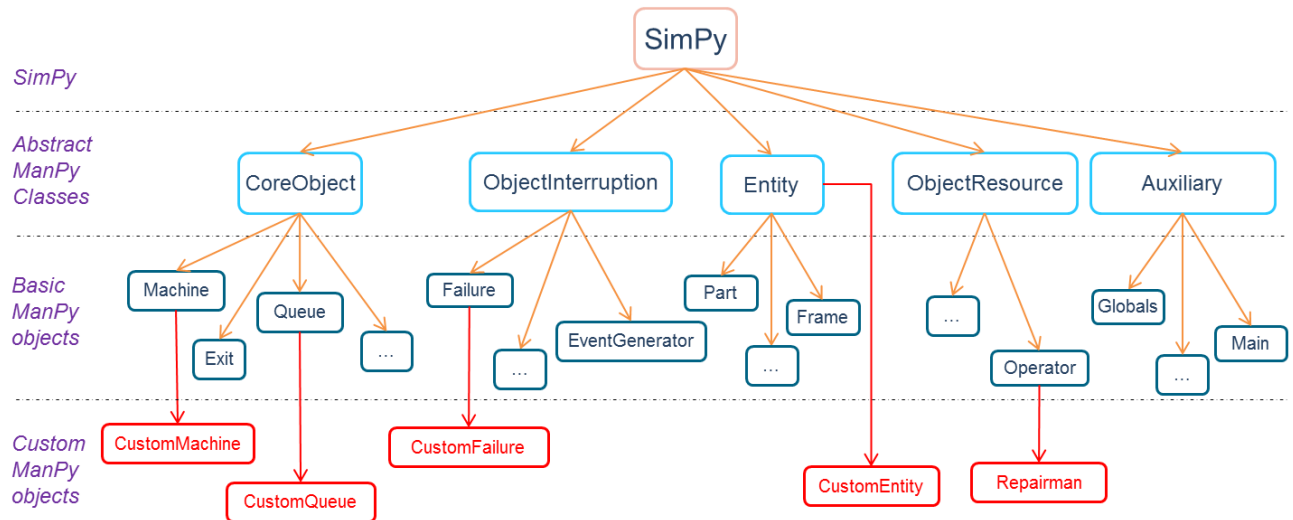

Figure 1: The ManPy class hierarchy.
ManPy objects are written exclusively in Python and they use methods of SimPy. Figure 1 shows the current state of the architecture.
In Figure 1 four different layers are depicted:
- **Auxiliary:** These are auxiliary classes that are needed for different simulation functionalities. Unlike the other categories described here, auxiliary classes do not inherit from one parent class, even though it is depicted in such a way in Figure1 for reasons of coherence.